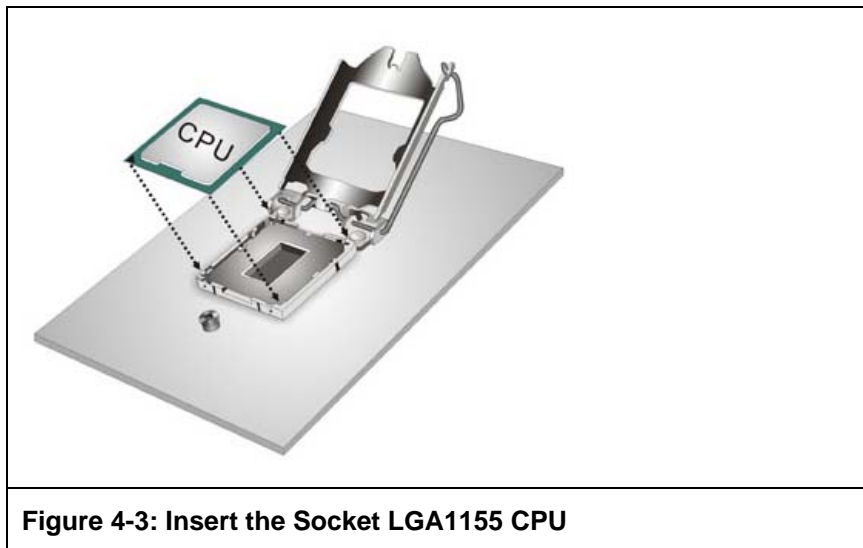

Figure 4-3: Insert the Socket LGA1155 CPU
- Step 7: Insert the CPU.** Gently insert the CPU into the socket. If the CPU pins are properly aligned, the CPU should slide into the CPU socket smoothly. See **Figure 4-3**.